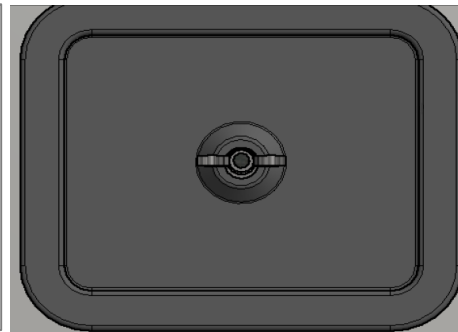

Figure 9
- Remove the protective cover for cleaning (see figure 6) and remove the access register cover (see figure 9) fixed with a screw.